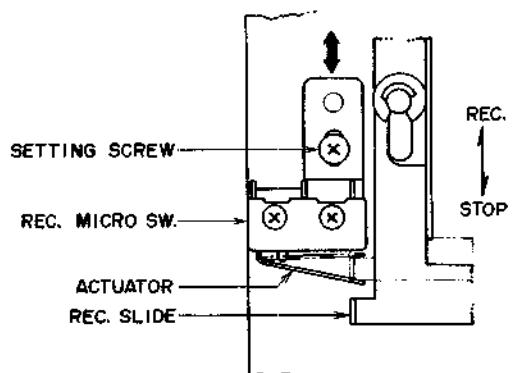

Fig. 4
3. RECORDING MICRO SWITCH POSITION ADJUSTMENT (Refer to Fig. 4)